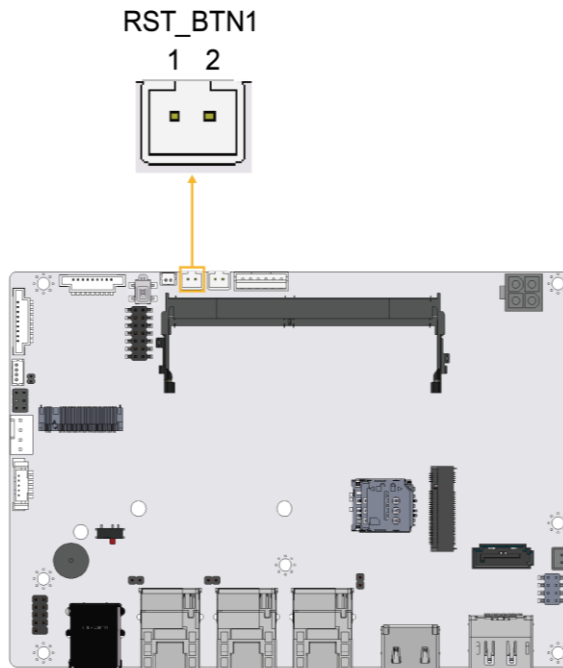

Figure 4-8: Reset Button Connector Location
- CN Location:** See **Figure 4-8**